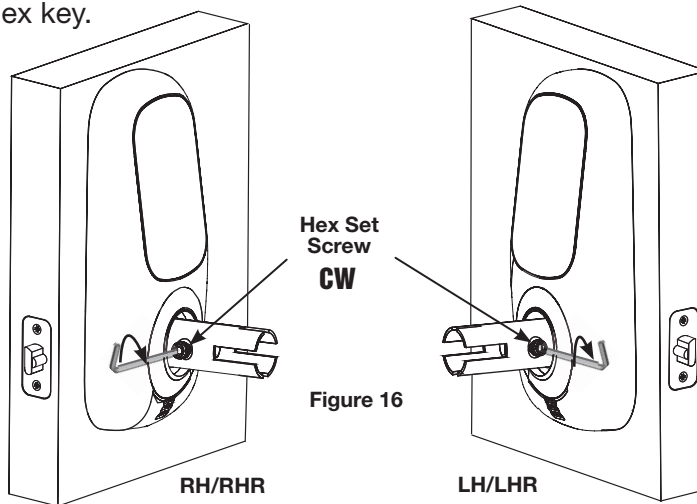

Figure 16
A. Place set screw in hole on side of shank toward latch (Fig. 16); turn set screw **CW** to allow for placement of lever handle over shank.
NOTE: For correct lever handing, the hex set screw for the exterior lever shank must be installed as shown (Fig. 16).